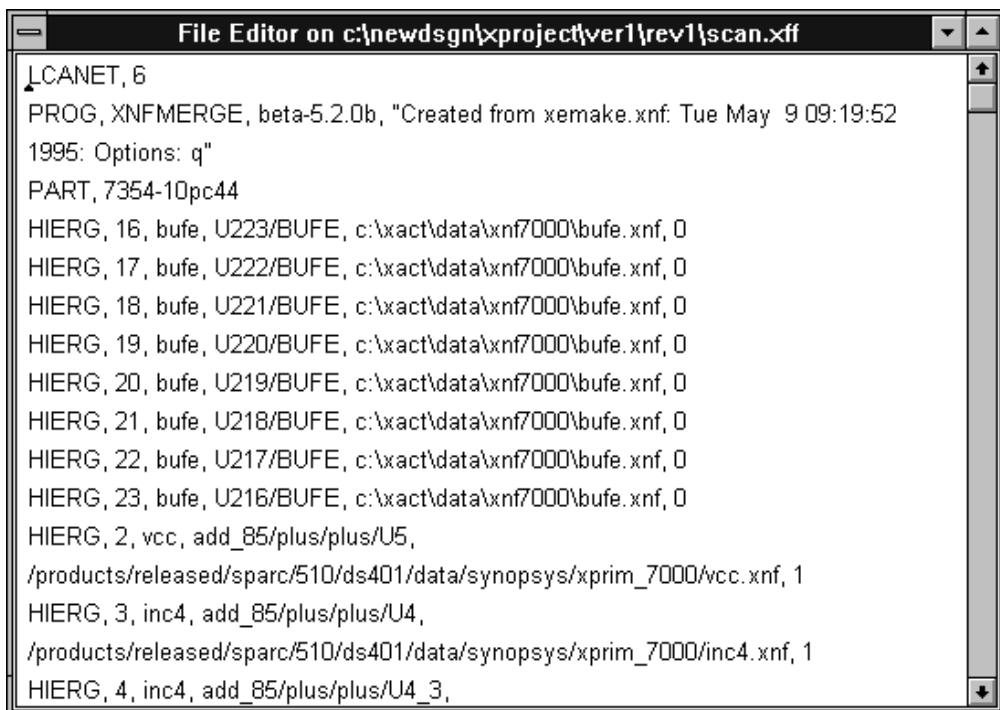

Figure 2-22 The Browse Revision Edit Dialog Window
- Edit: If you want to modify a file, select the file and click Edit; you will see the dialog window shown in Figure 2-22: